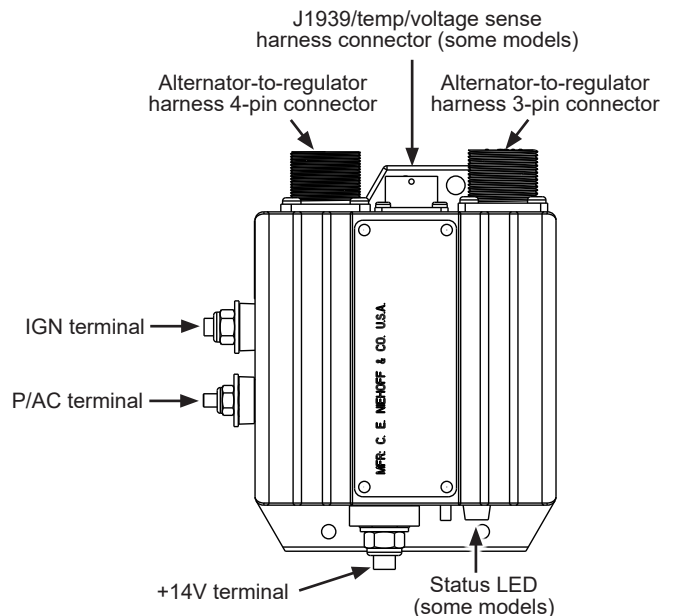

Figure 7: Typical Dual Voltage (28/14V) Regulator Connections
- **+14V terminal** (dual voltage regulators only) must be connected to battery +14V stud to equalize battery pack where both 28V and 14V loads are used. Torque terminal hardware to 5.7 Nm/50 lb. in. See Figure 7.